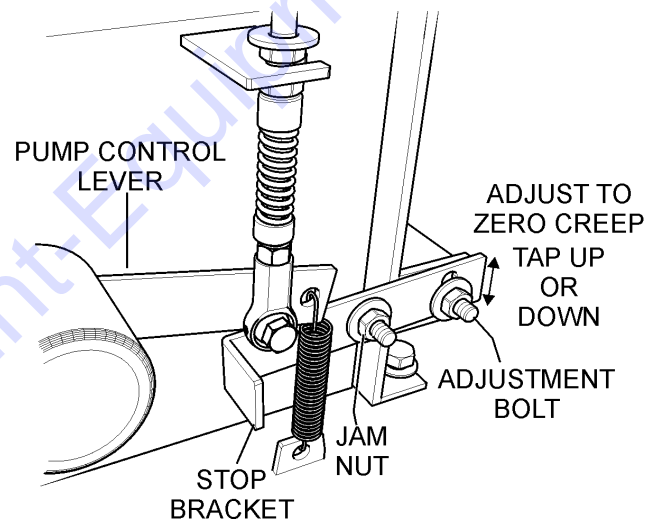

Figure 49. Pump Control Lever Adjustment
2. Locate the **pump control lever** adjustment bolt (Figure 49).